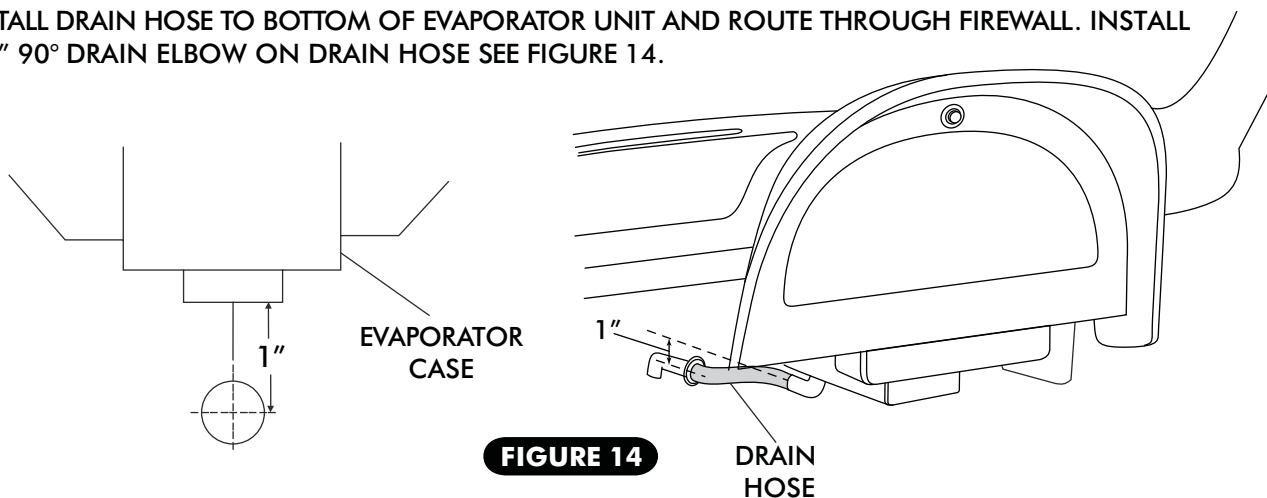

FIGURE 14
- ☐ IN-LINE WITH DRAIN, LIGHTLY MAKE A MARK ON THE FIREWALL MEASURE 1" DOWN AND DRILL A 5/8" HOLE THROUGH THE FIREWALL. SEE FIGURE 14 BELOW.
- ☐ INSTALL DRAIN HOSE TO BOTTOM OF EVAPORATOR UNIT AND ROUTE THROUGH FIREWALL. INSTALL 1/2" 90° DRAIN ELBOW ON DRAIN HOSE SEE FIGURE 14.